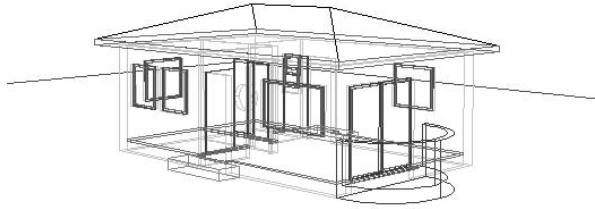

FIGURE A.28: The view ready to be rendered
13. Choose View > 3D Orbit. Right-click in the drawing area, and choose Projection > Perspective. Exit 3D Orbit. This completes the view setup for the render (see Figure A.28).